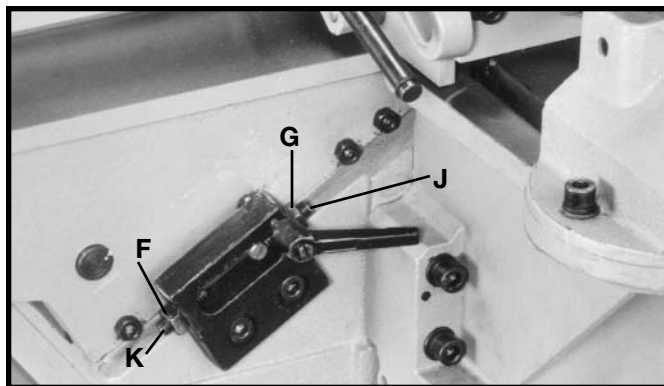

Fig. 37
Positive stops are provided to limit the height and depth of the infeed table. To adjust the stops, loosen two locknuts (F) and (G) Fig. 37, and turn the two adjusting screws (J) and (K) as required. Then retighten the locknuts (F) and (G). A good suggestion is to set the upper positive stop (J) for your finish or final cut. This means that you will be able to rapidly set the infeed table for a finish or final cut without checking the scale and pointer. Also the lower positive stop (K) can be set for the maximum depth-of-cut or if you desire to limit the depth-of-cut, adjust the stop screw (K) accordingly.